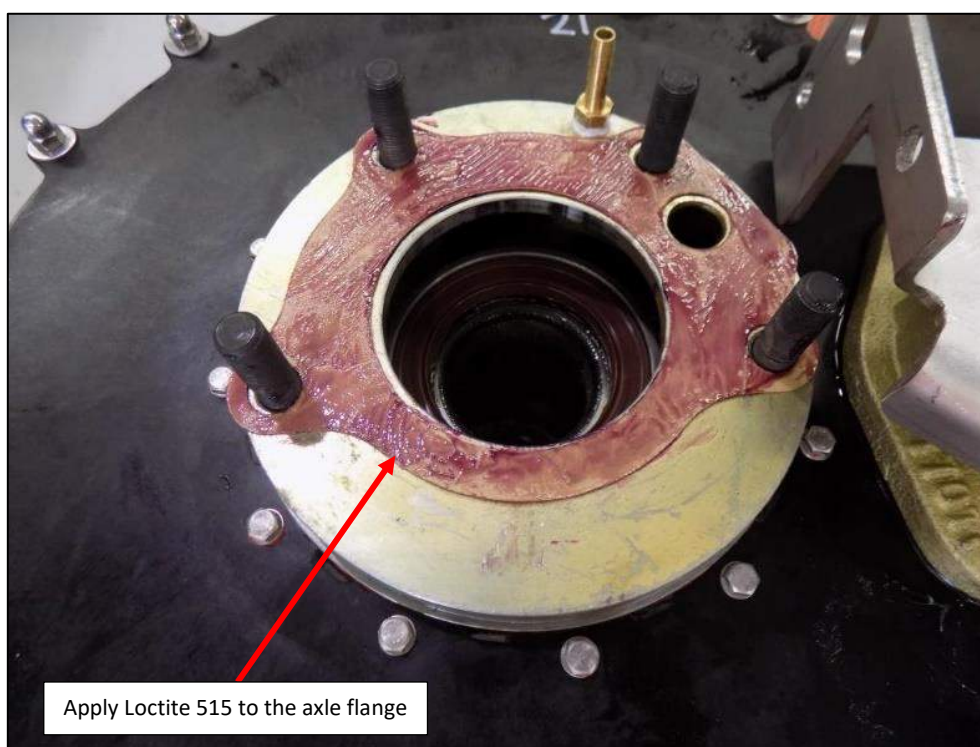

Figure 2
15. Apply Loctite 515 to both sides of the gasket provided and attach to the brake (Figure 2). The gasket can be found in the brake assembly box.